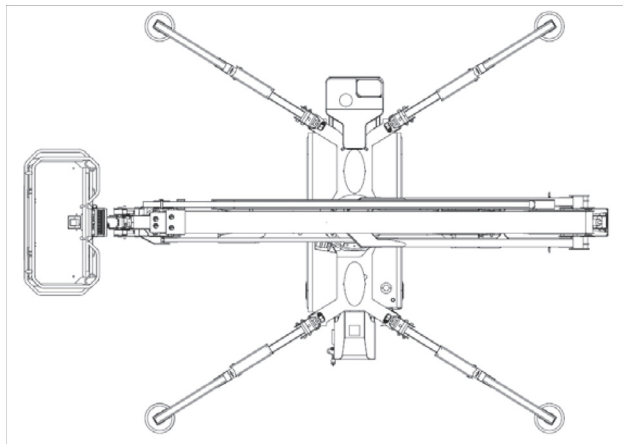

Figure 3-32. Cover position engine
1. Place and stabilize the machine on a flat and level surface, rotate the turret 90° (Figure 3-32.).